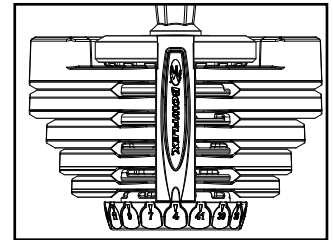

Figure 1
3. The weight increments range from 4 to 41 kg (10 lbs to 90 lbs) on both adjustment knobs. To properly select a given weight (9 kg [20 lbs] for example), rotate both adjustment knobs until that number (9) is aligned with the arrow located on the outward edge of the Bowflex® nameplate (Fig.1).